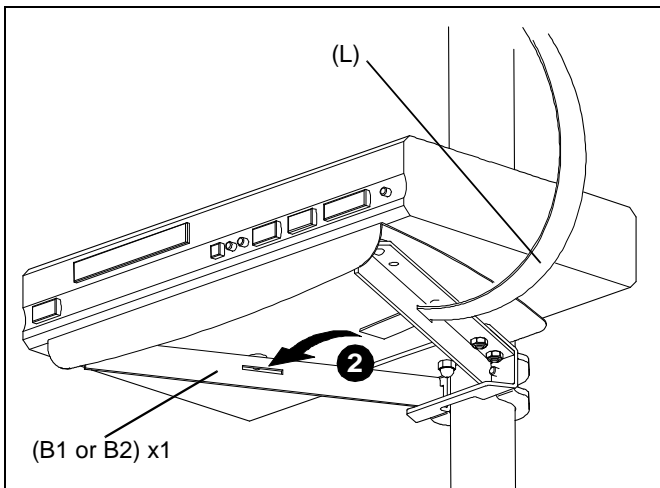

Figure 5
2. Thread PAC103 (L) through slots in shelf base (B1 or B2). (See Figure 5)